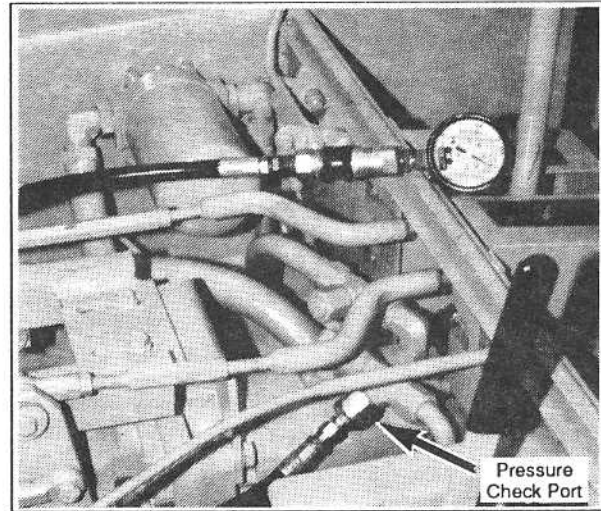

Figure 4-1
5. Activate the auxiliary hydraulics control lever to go over "relief," and compare pressure reading with specification listed. (See figure 4-1)